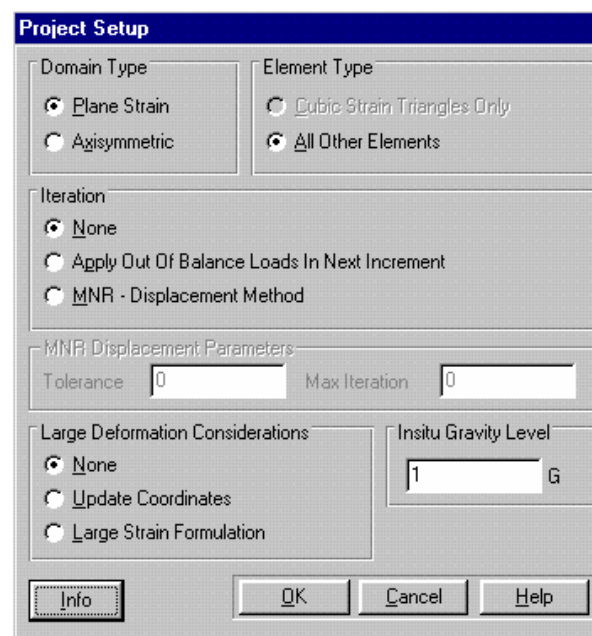

Figure 4-3:Project Setup dialogue box
- Step 3** The Project Setup dialogue box should now look similar to Figure 4-3.